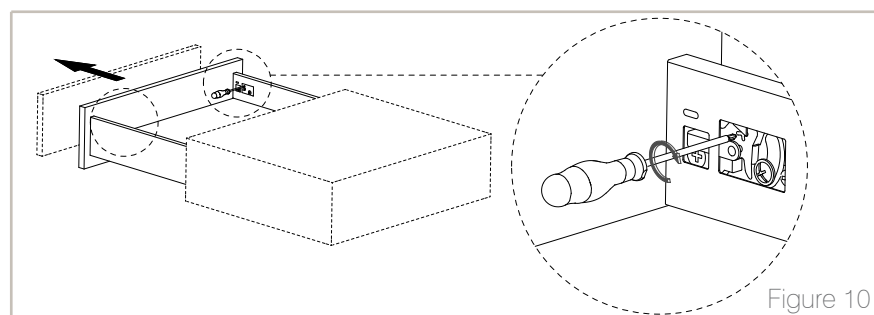

Figure 10
- Clamp a piece of wood on the back of the drawer (being careful not to damage the front) and drill through carefully from the front. See figure 10.